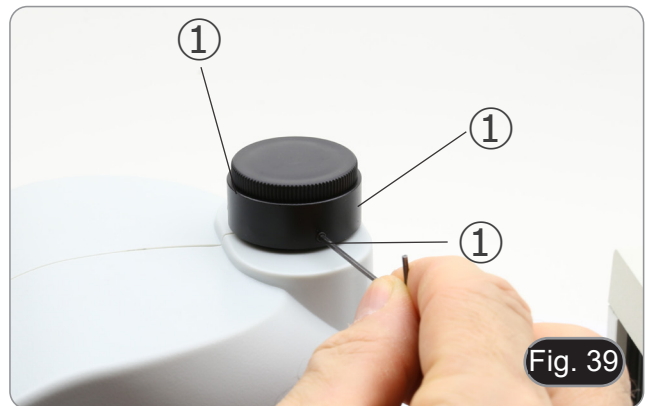

Fig. 39
1. Loosen the fixing screws ① of the supplied photo port and remove the existing photo port. (Fig. 39)
3. Lock the fixing screws ①. (Fig. 39)